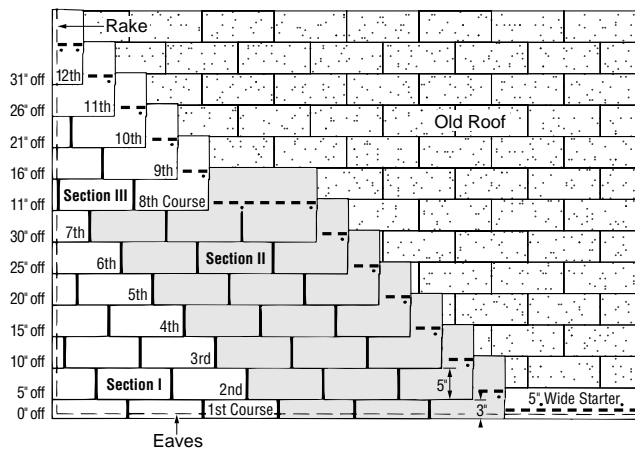

Figure 12-21: Five Off, Twelve Up, Nested.
**1ST COURSE:** The first course is made of 10" by 36" shingle strips made by cutting 2" off the bottom of the tabs of regular shingles. Align the top edge of the strips so they butt up against the tabs of the shingles in the old third course (*Figure 12-21*).
- Begin the second course by cutting 5" off the left end of a shingle and aligning the top edge with the butt edge of the shingle in the old fourth course (*Figure 12-21*).
- Begin the eighth course by cutting 11" off the left end of a shingle and applying the 25" piece over the seventh course shingle, aligned with the left edge of the seventh course (*Figure 12-21*).